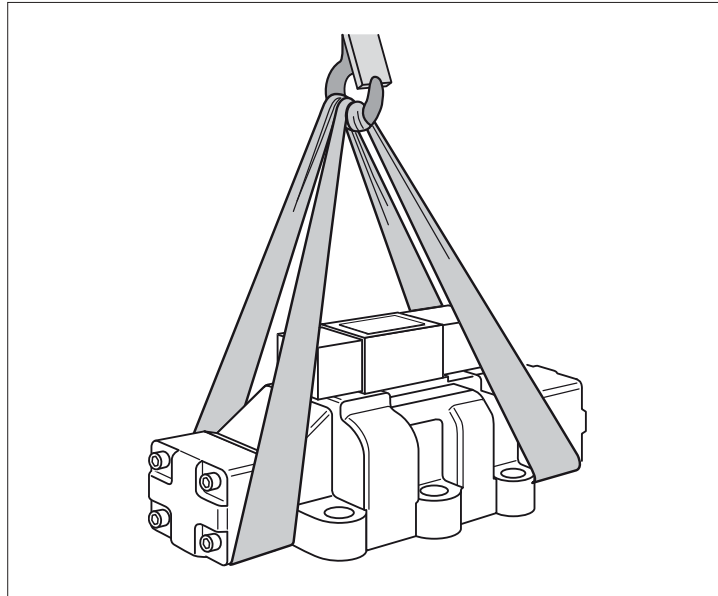

Fig. 3: Position of the lifting strap
- ▶ Put a transport belt around the valve so that it does not lie over the attachment parts (e.g. pilot control valve and spool position monitoring), see figure 3.